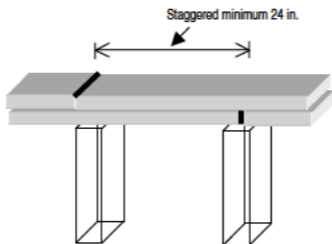

Figure 5-2 TOP PLATE LAP
- Check that top plates are lapped at least 24" in. (see Figure 5-2).